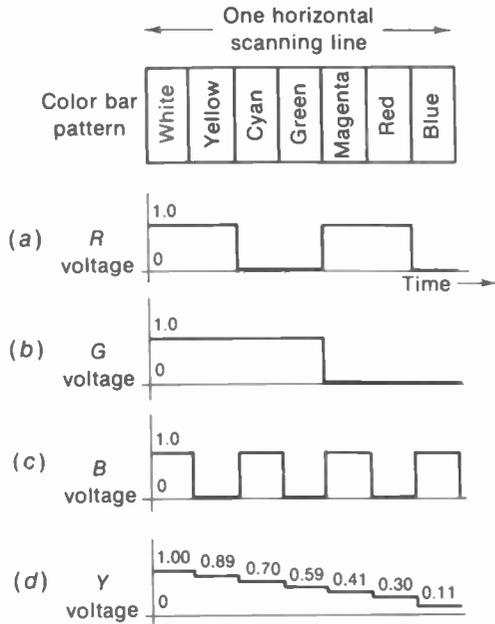

FIGURE 8-13 WAVEFORMS OF *R*, *G*, AND *B* VIDEO TO FORM THE *Y* SIGNAL, FOR COLOR-BAR PATTERN.
**Voltage values for Y signal.** Figure 8-13 illustrates how the Y signal voltage in *d* is formed from the specified proportions of R, G, and B voltages for the color-bar pattern. Notice that the bars include the primary colors R, G, and B, their complementary mixtures of two primaries, and white for all three primaries.